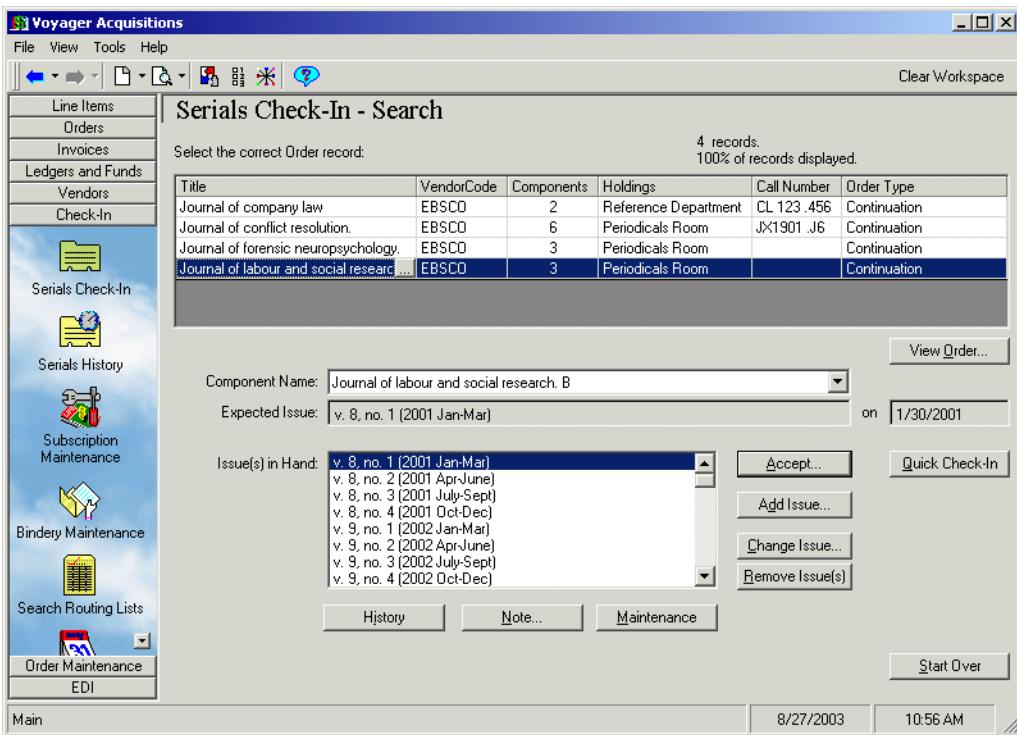

Figure 13-6. Serials Check-In workspace- ellipsis displayed in the Title column of the list of records
- The **ellipsis** button in the Title column (Figure 13-6) of the list of records that displays after searching for records in Serials Check-In. See Checking In Serials on page 9-4.
- The **ellipsis** button beside the **Title** field at the top of the **Serials Check-In - Receive/Mark** workspace (Figure 13-6), which displays after clicking the **Accept** button on the **Serials Check-In** workspace. See Figure 9-6 on page 9-10 for more information about the **Serials Check-In - Receive/Mark** workspace.